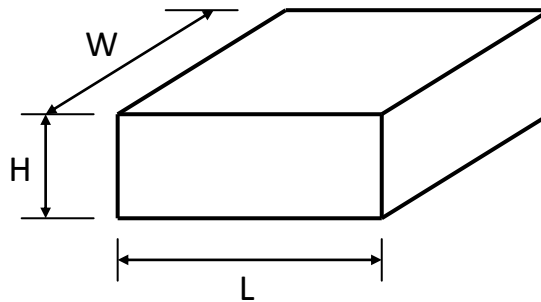

Figure 5.1
(1) When the machine is running, switch the operation mode to (STARTUP), check whether the belt is running normally, whether the conveyor surface is in the middle of the wheel, if there is deviation, please refer to the next chapter conveyor belt adjustment, Switch to manual mode.
(2) The width of the package mentioned in this manual is expressed in W, the height is expressed by H, and the length is in L, as shown in Figure 5.1.